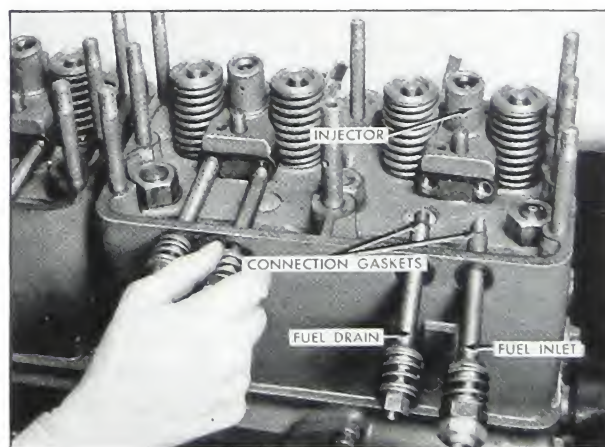

Fig. 12-24. Injector connections
6. In order to align the injectors before tightening down the hold-down nuts, screw in the inlet and drain connections about three turns. This is to align the injector body with the fuel connections so that the threaded connecting gaskets will seat squarely against the face of the injector. Always use new gaskets to prevent fuel leaks and dilution of lubricating oil. (Fig. 12-24).